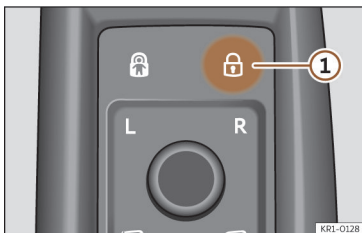

Fig. 71 On the driver's door: central locking button.
- Lock: press the  >>> **Fig. 71** button.
- Unlock: Press the  >>> **Fig. 71** button again.